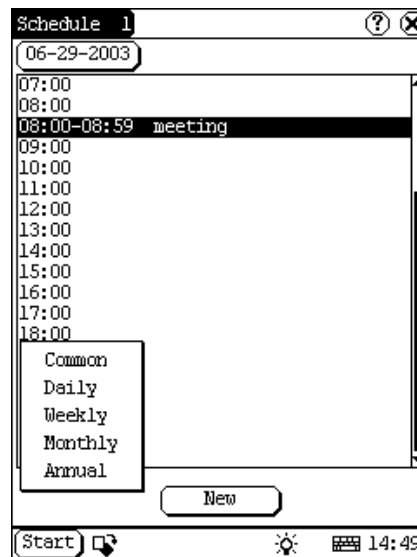

Figure 4-30
- 1) In the Schedule interface, click [New] button so that the Cycle list pops up. See Figure 4-30.